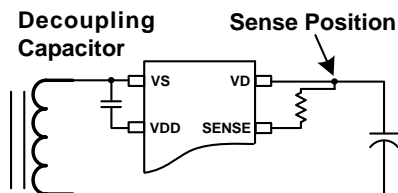
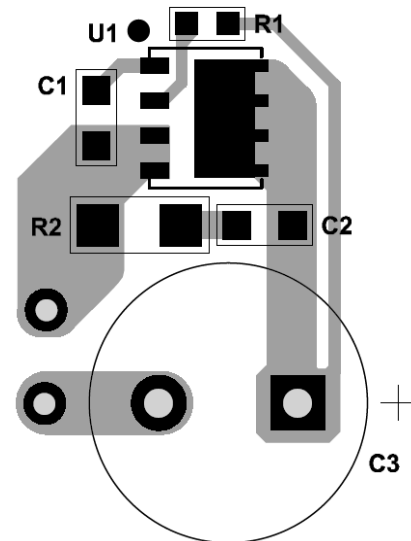

Figure 5: Voltage Sensing for VD/SENSE
Figure 6: Layout Example for QFN4x5-8 package in Flyback High-Side Application
Efficient PCB layout is critical for stable operation. For best results, refer to Figure 5, Figure 6, Figure 7, and follow the guidelines below.
1. Connect SENSE pin to different position for an adjustable turn-off point of time during the fast transients in CCM. In general, the farther the junction point is from the VD, the earlier the SR turns off. (See Figure 5).
Figure 6 and Figure 7 show the layout example for QFN4x5-8 package and SOIC-8 package in high-side application of flyback power supply, respectively. It is a single layer with a through-hole transformer. R2 and C2 are the RC snubber network for the internal MOSFET. The sensing loop (SENSE to the MOSFET drain) is optimized and kept separate from the power loop. The VDD decoupling capacitor (C1) is placed beside VDD.